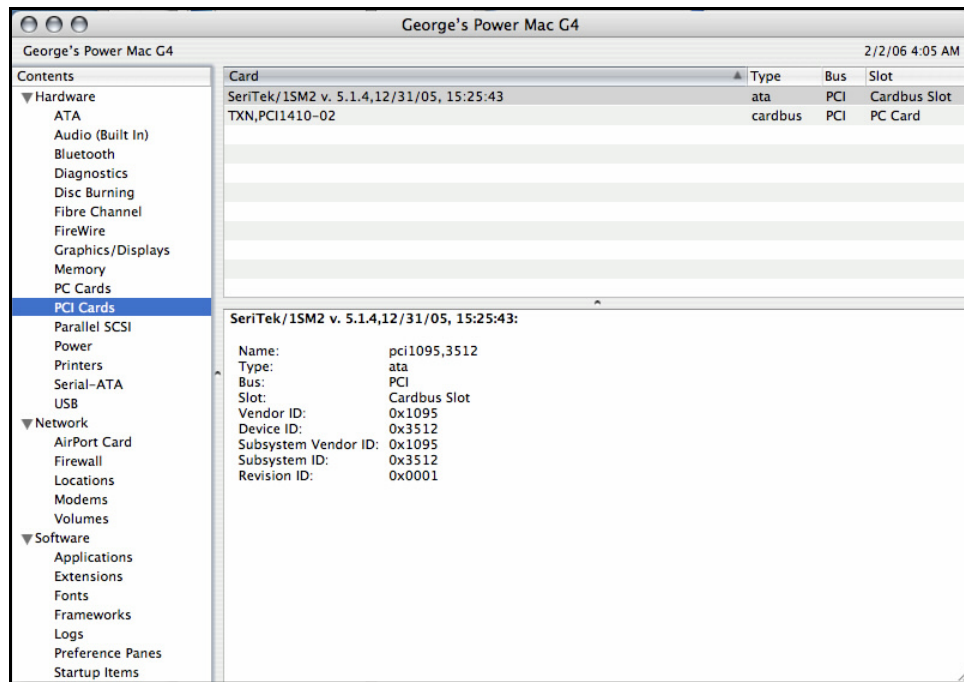

Figure 28: SeriTek/1SM2 Listed Under *PCI/AGP Cards*
2. Select the *Devices and Volumes* tab (early Mac OS X version) or open *Hardware* and select *PCI/AGP Cards* (See Figure 28).